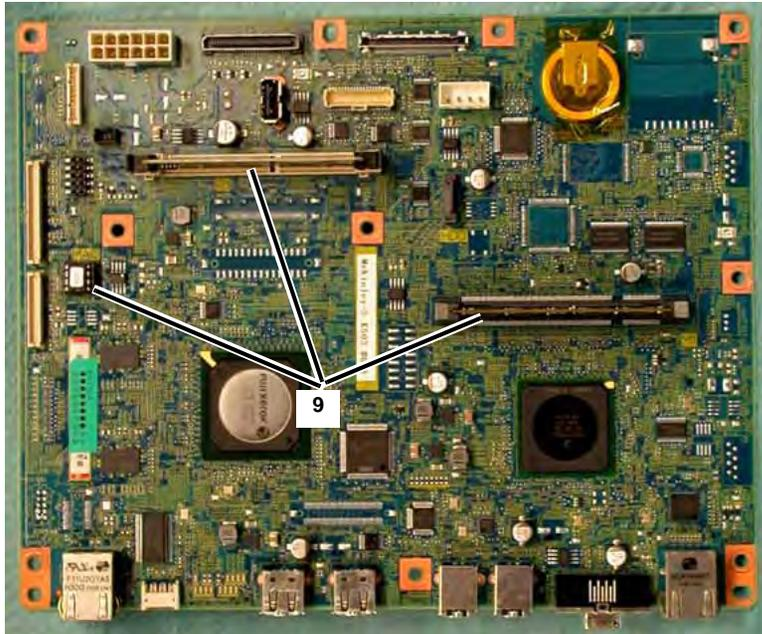

Figure 8 ESS PWB
9. When replacing the ESS PWB, remove the EPROM, the Memory PWB, and the Postscript PWB (if present, optional) (Figure 8).